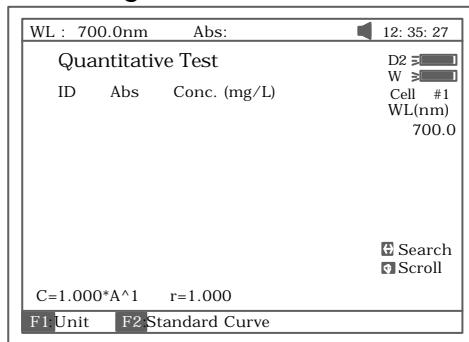
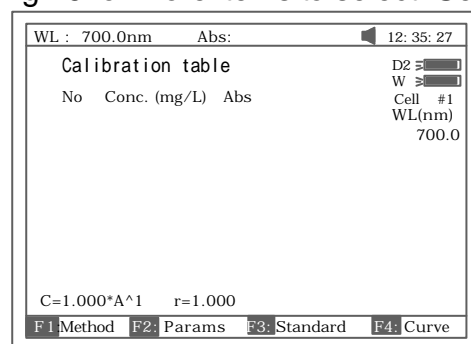
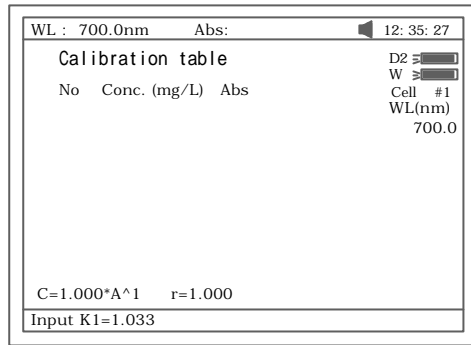
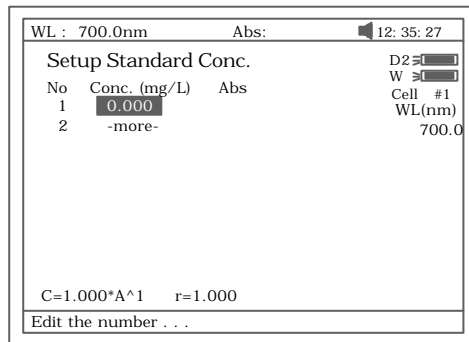

Fig 26
Fig 29
Fig 29A
Fig 30
Press **【2】** in Main Menu for “Quantitative” Test (Fig 26). Press **【ESC/STOP】** to exit.
Note: .If no automatic changer installed “cell #1” will disappear in Fig26.
3. Press **【F2】** in Fig 26 for more items to select .See Fig 29.
3.1 Press **【F1】** in Fig 29 to select fitting method. There are 4 methods for you to choose: Linear fit, linear fit through zero, square fit and cubic fit.
3.2 Press **【F2】** in Fig 29 to enter directly a known standard curve. Fig 29A.
3.3 Press **[F3]** in Fig 29 to establish a standard curve by measuring a group of standard samples. See Fig 30.
See 3.2. For Fig 29 enter a known standard curve directly.
Note: All sample results must be taken in screen Fig26.